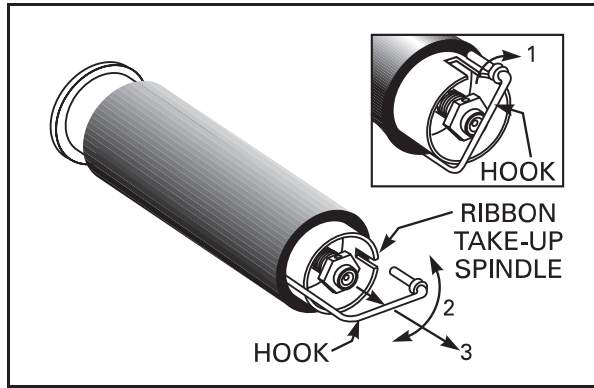

Figure 8. Removing Used Ribbon
2. Refer to Figure 8. Pull the hook out slightly, rotate the hook back-and-forth several times as shown, and then remove it from the spindle.